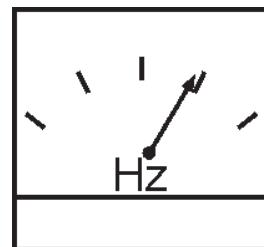

Figure 24. Frequency Meter (Hz)
4. The generator's frequency meter (Figure 24) should be displaying the 50 cycle output frequency in **HERTZ**.